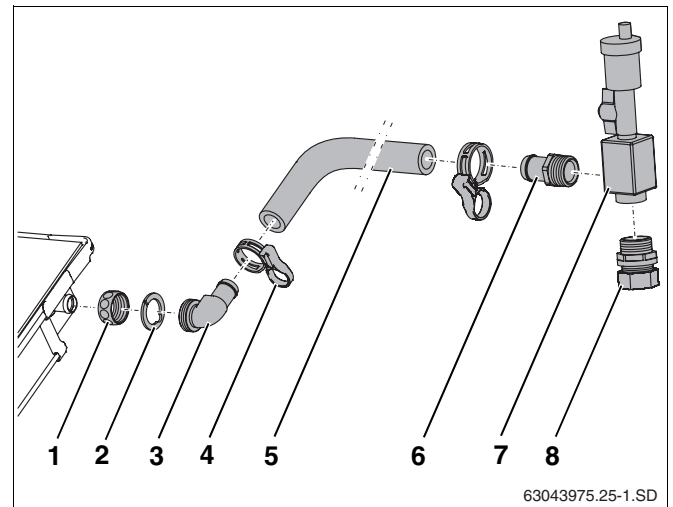

Fig. 38 Fitting the solar hose to the flow connection
- ▶ Push nut (Fig. 38, **Item 1**) over the collector connections.
- ▶ Place the clamping disc (Fig. 38, **Item 2**) behind the head on the collector connection and press together.
- ▶ Align angled nozzle with O-ring (Fig. 38, **Item 3**) and join with nut.
- ▶ Push long solar hose (1000 mm, Fig. 38, **Pos. 5**) onto the angled nozzle and fix in place using hose clip (Fig. 38, **Item 4**).
- ▶ Screw R $\frac{3}{4}$ hose nozzle with O-ring (Fig. 38, **Item 6**) and double threaded fitting with O-ring (Fig. 38, **Item 8**) into the air pot (Fig. 38, **Item 7**).
- ▶ Push hose nozzle (Fig. 38, **Item 6**) onto the solar hose as far as it will go and fix in place using hose clip.
- ▶ Connect header pipe to the compression fitting (Fig. 38, **Item 8**).